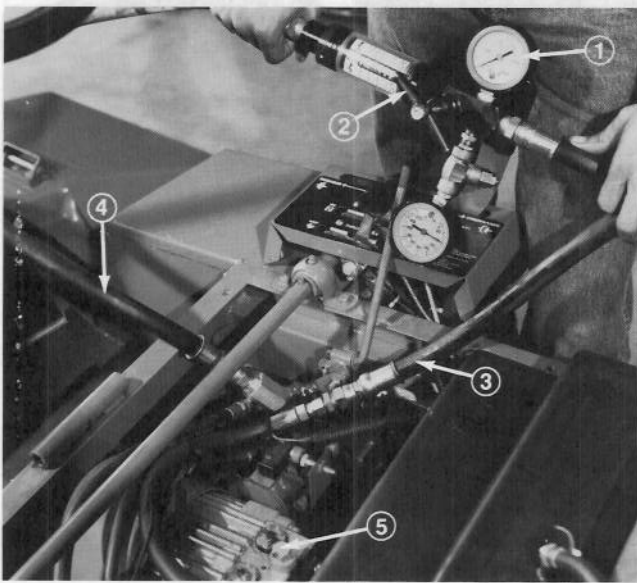

Figure 75
3. Remove seat, seat support cover and seat support and remove line from top of pump housing to lift valve from lift valve fitting (Fig. 75).
4. Install hydraulic inlet hose of test gauge into line from transmission and test gauge return line into lift valve fitting (Fig. 75).
7. Increase engine speed to 3200 rpm - full throttle and watch flow and pressure gauges. Slowly close load valve until flow gauge reads one (1) GPM (0.063 L/s). Pressure reading at one (1) GPM (0.063 L/s) should not be lower than 500 psi (3447.5 kPa). If one (1) GPM or a minimum of 500 psi (3447.5 kPa) cannot be achieved, remove implement relief valve and examine for contamination or broken parts (Fig. 75). If no contamination or damage is evident, add one shim to assembly and repeat test.